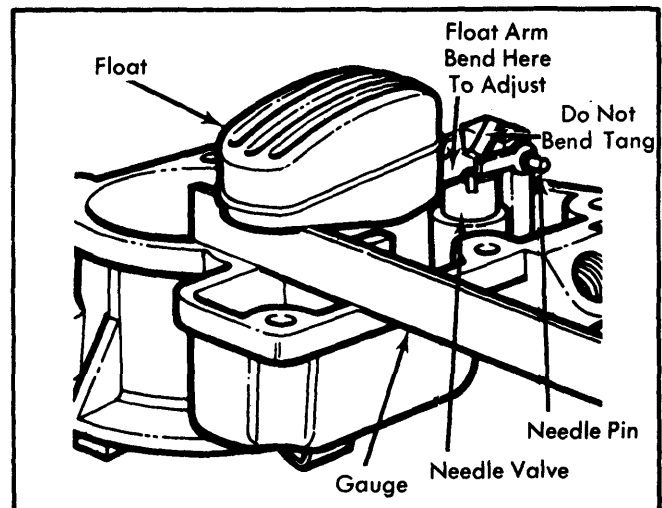

Fig. 2 Adjusting Float Level
1) Remove air horn and gasket. Turn air horn assembly upside down. See Fig. 2.